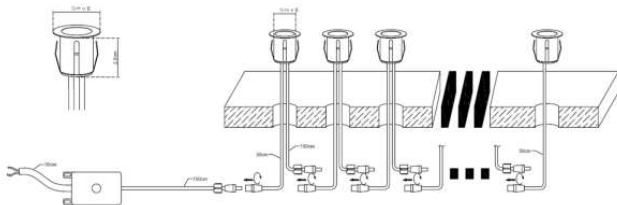

Fig. 2
- Feed the cable of each fitting through the holes and connect with the pre-installed plugs and sockets (see Fig. 2)